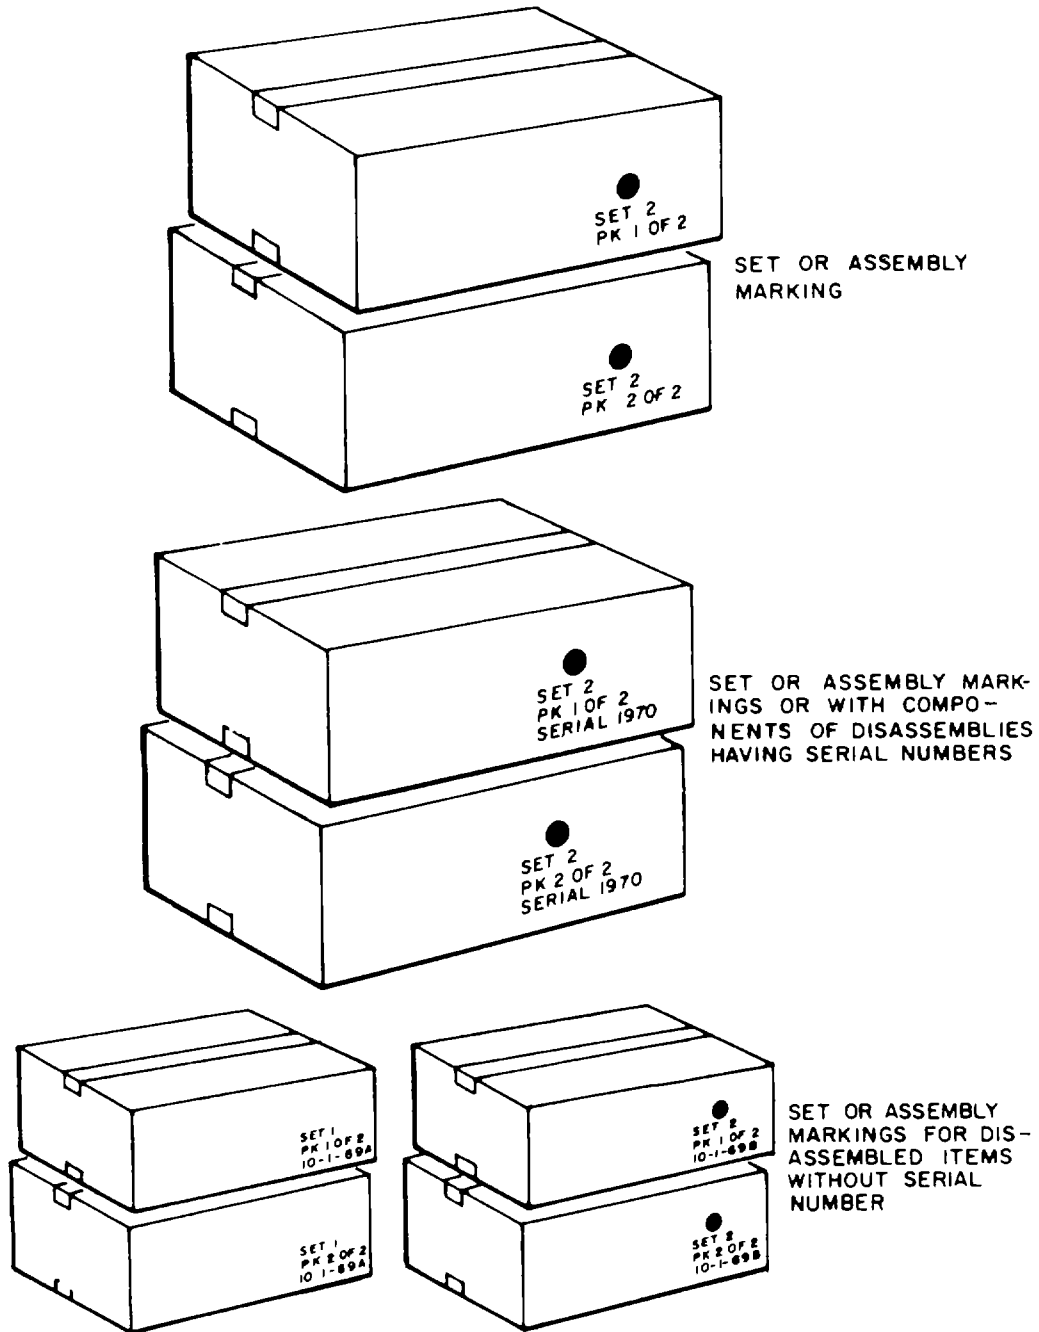

Figure E-7. Set or Assembly Markings.
a. Set or Assembly Markings (fig. E-7). When a set or assembly is placed in two or more containers, each container shall bear its own number within the set (the total number of containers make up the set) and the number of the set within each shipment. Place a 2-inch black disc above these numbers on each container. If the set or assembly has a serial number, include it in the markings. When a disassembled item does not have a serial number, show a date (month, day, and year) followed by a capital letter to identify a set or assembly. Each set shall bear a different letter. Place the markings in the lower right-hand corner on the surfaces containing the identification markings.